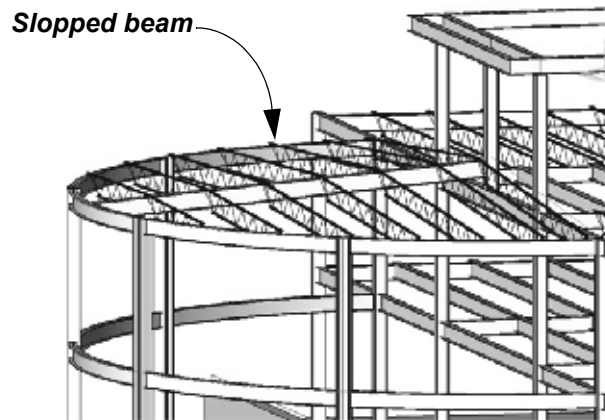

Figure 7-75
4. How do you create sloped beams such as those shown in Figure 7-75?